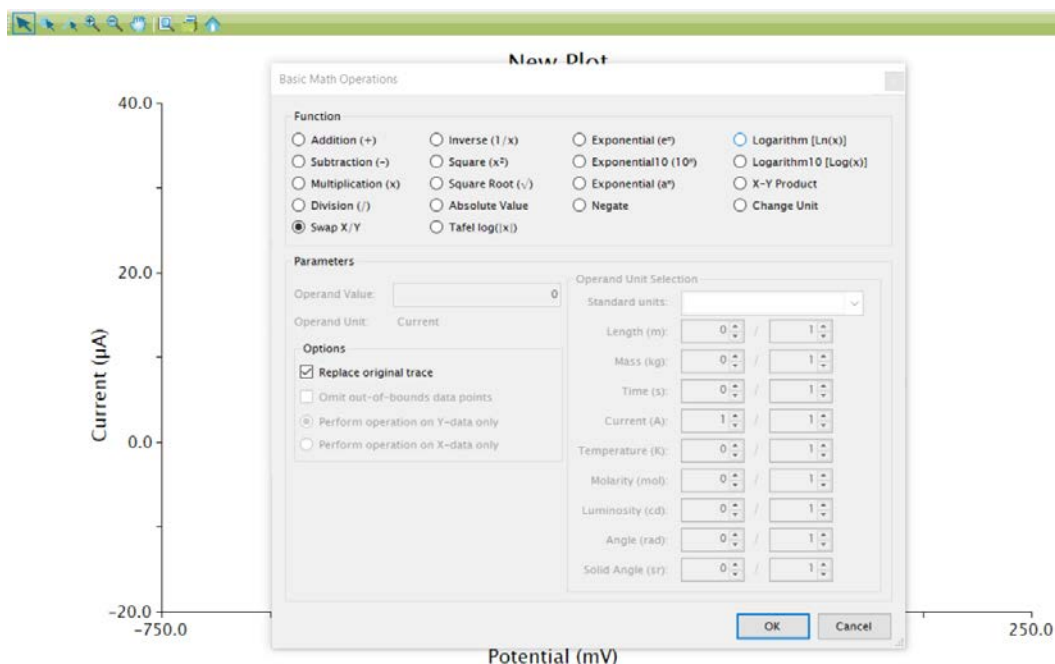

Figure 2-3. Use of Basic Math Operations to Transform Axes
1. Right click the LSV data on the plot and choose *Apply Transform* → *Basic Math Operations...* (see: Figure 2-3)